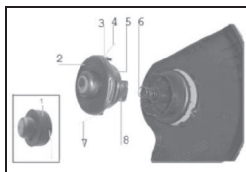

Fig.3
7.3. Remove the cover (2) of the spool by releasing it from the retainers 4 and 7 (see Fig. 3), by pressing your fingers on the corresponding points (constrained by guides 3) on the spool cover. Take out the coil (5) and the spring (6) from the spool.